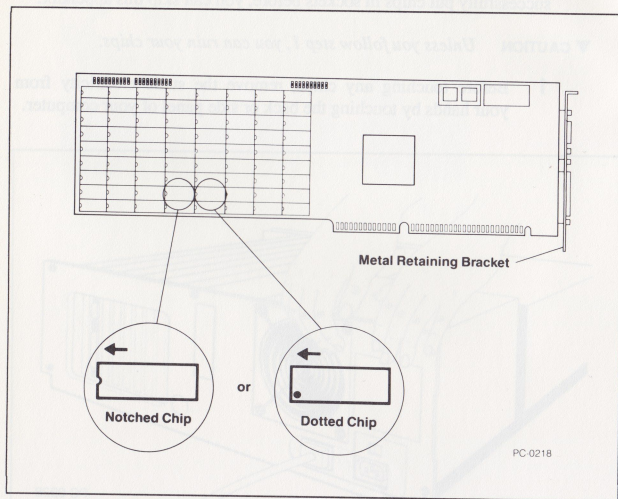

Figure A-2 Orienting the chip correctly
- 2 Orient your board as shown in Figure A-2, with the metal retaining bracket on the right. Before you put a chip in a socket, make sure the notched edge of the chip points to the left. If the chip has a dot instead of a notch, make sure the edge with the dot faces left.